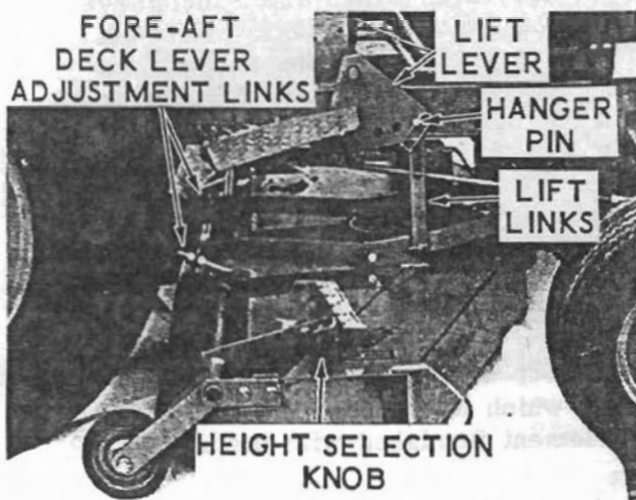

Figure 4.
1. Height Selection Lever: See Figure 4
2. Mower Flotation Adjustment: See Figures 4, 5 and 6.